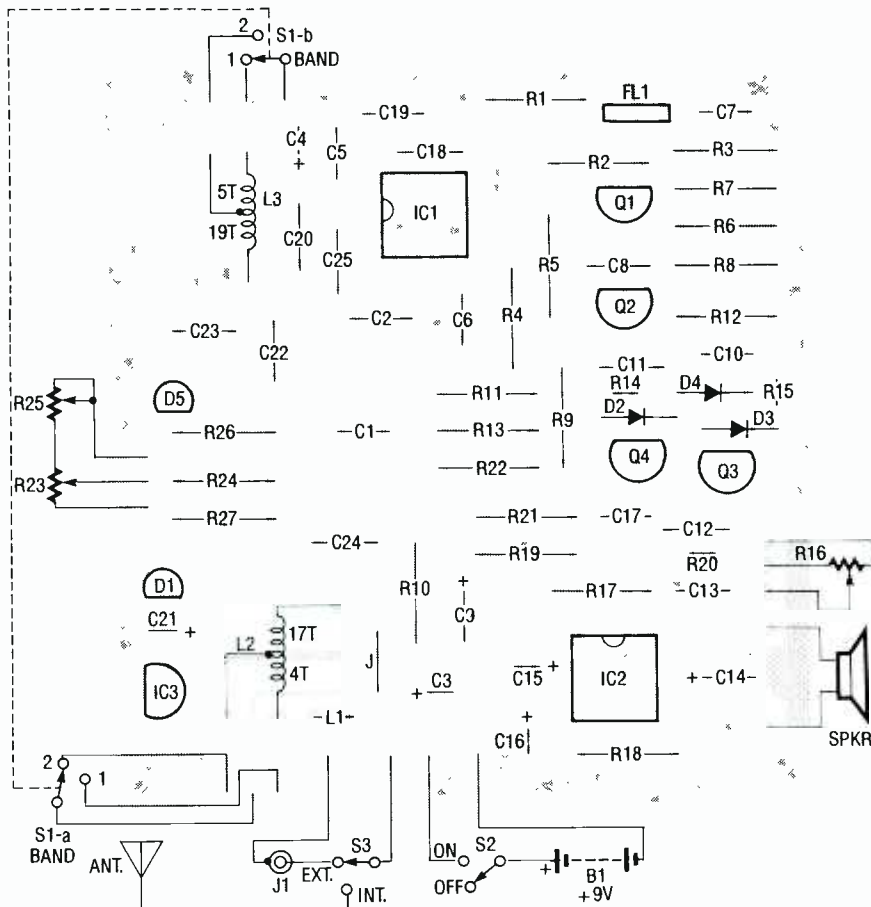

FIG. 4—PARTS-PLACEMENT DIAGRAM. Be sure to install the circuit in a metal project case to help reduce interference.
Even though this is a low-frequency project, a PC board is recommended; you can make your own from the provided foil pattern or buy a finished version from the source mentioned in the parts list. Figure 4 shows the parts-placement diagram.
**FIG. 4—THE BMI 4800 POWERSCOPE. While similar to the BMI 2400 in physical appearance, it has considerably more processing power, with up to four main and eight probe channels.**